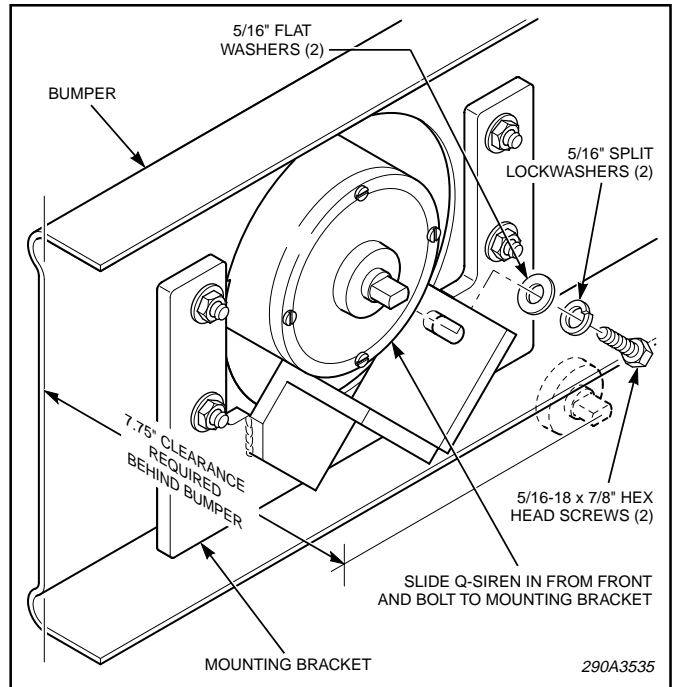

Figure 3.
- d. See figure 3. Slide the siren in the bumper from the front. Apply Loctite 471, or equivalent, to the supplied bolts. Secure the siren to the bracket using the supplied bolts, washers, and lockwashers.